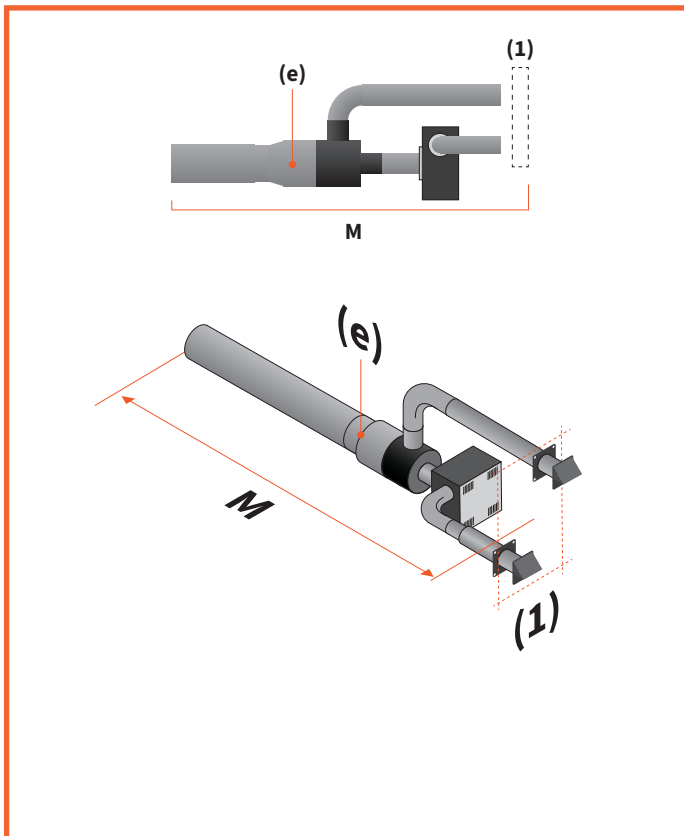

Figure 3.13 - Flue construction - type 2.3
(Partial) Concentric flue - flue size Ø150 / 100 (See *Figure 3.13*)
*Figure 3.13* serves as a reference for the maximum lengths for this construction situation, where;